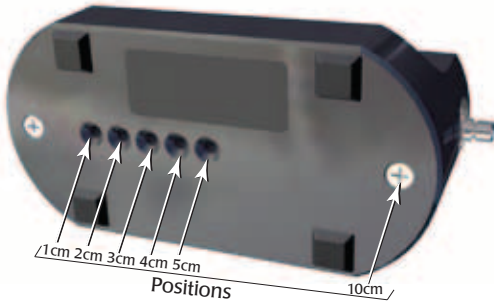

Fig. 3—Adjustable Cuvette Holder (bottom view) shown in the 10cm position
1. Turn the adjustable cuvette holder (WPI #89328) upside down (Fig. 3).